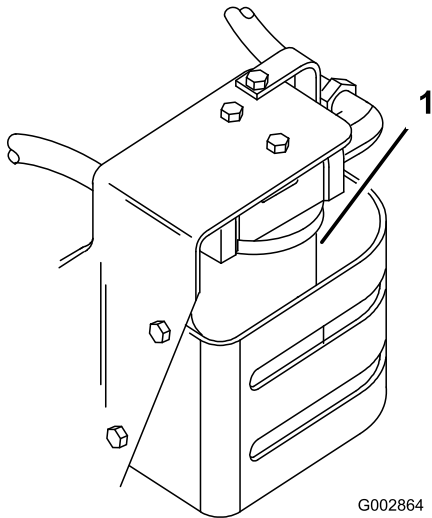

Figure 38
2. Place a drain pan under the filter, remove the old filter and wipe the filter adapter gasket surface (Figure 38).